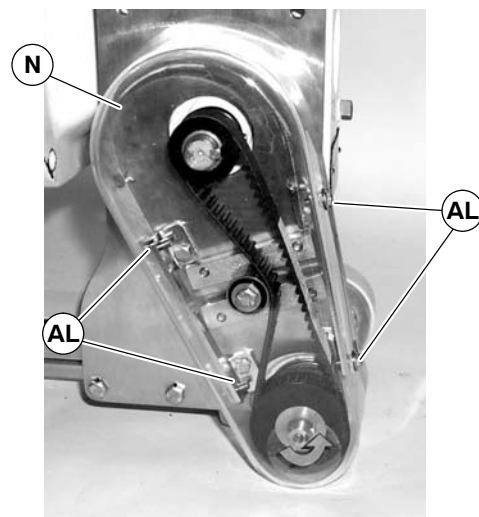

Figure 33
1. Loosen four screws (AL of Figure 33) and remove cover (N).
NOTE: Do not over-tighten screws (AL of Figure 33).
- Attach cover (N of Figure 33) with four (4) screws (AL). Tighten screws to 35 in-lb (4 Nm).